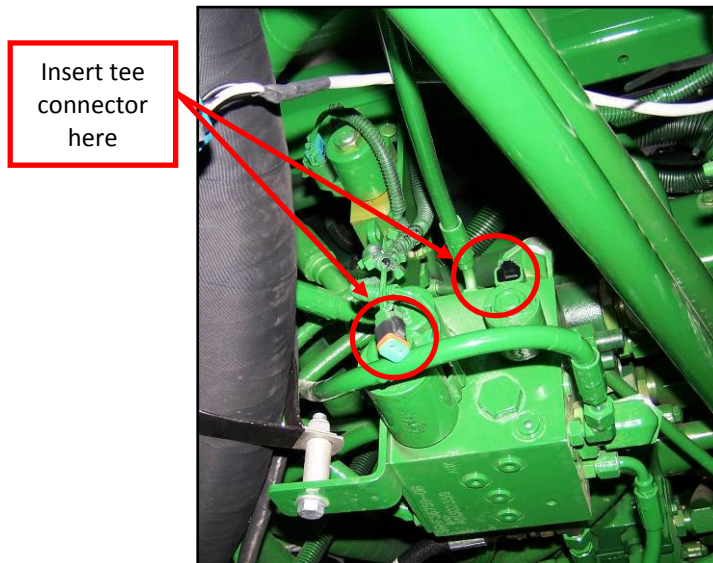

Figure 25: Load Sense Jam Valve Connector
7. Route the bypass cable (with Deutsch connectors) on C11 under the sprayer. Connect the tee connectors into the jam valve connector, located at the JD shuttle valve, under the sprayer (Figure 25).